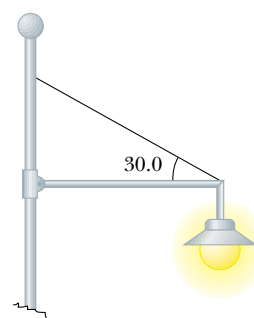

Figure P12.12
12. A 20.0-kg floodlight in a park is supported at the end of a horizontal beam of negligible mass that is hinged to a pole, as shown in Figure P12.12. A cable at an angle of 30.0° with the beam helps to support the light. Find (a) the tension in the cable and (b) the horizontal and vertical forces exerted on the beam by the pole.